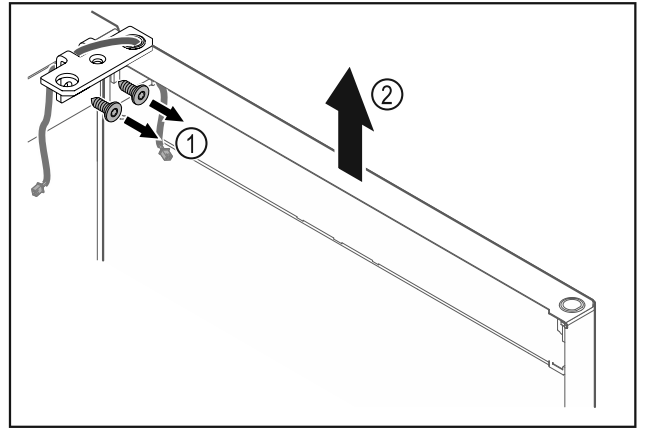

Fig. 13
- ▶ Unscrew the hinge Fig. 13 (1).
- ▶ Lift the door with the hinge straight up by Fig. 13 (2) roughly 200 mm and take it off.